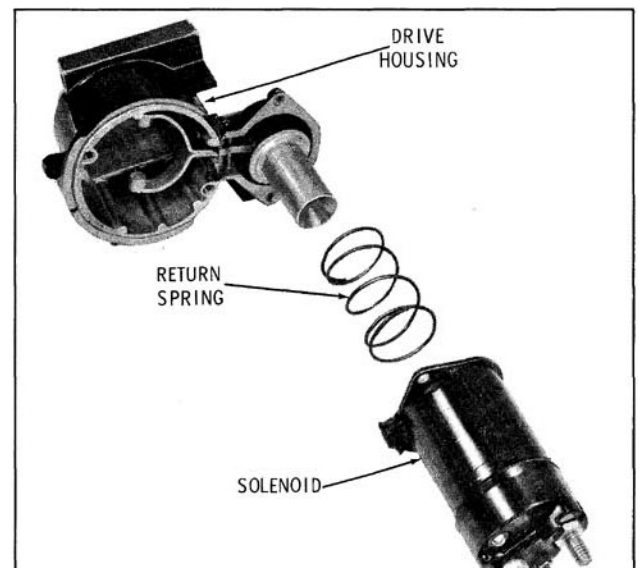

Fig. 13-52 Solenoid Installation
- a. Remove solenoid to drive gear housing attaching screws, then remove solenoid assembly. (Fig. 13-52)
- c. Install solenoid assembly to drive gear housing. (Fig. 13-52)